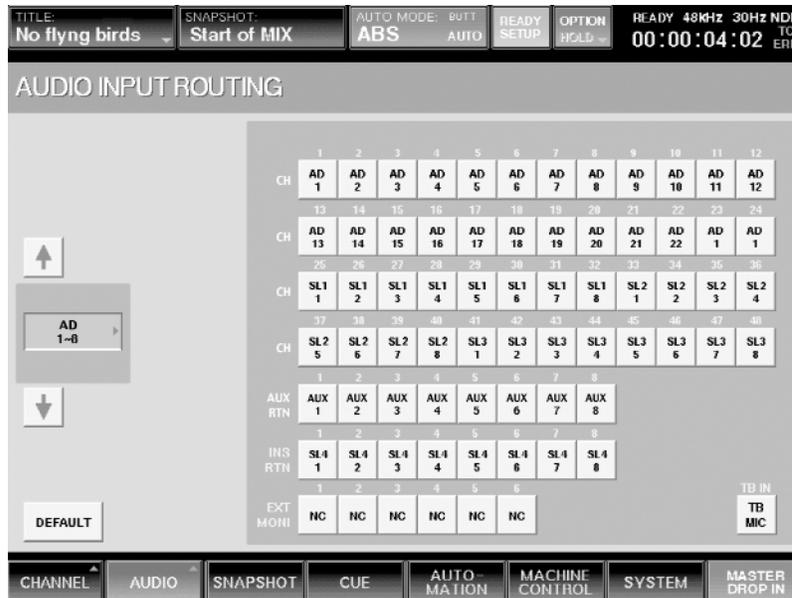

Figure 17
- To mult that signal to channel 23 as well, simply press the Channel 23 button. The signal connected to the first head amp will now appear on both input channels 23 and 24. (See Figure 17)